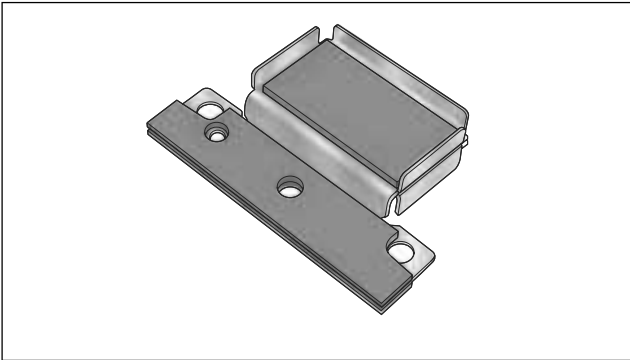

Figure 2-68. Brake Caliper Piston Remover (Part No. HD-43293A)
- a. Obtain BRAKE CALIPER PISTON REMOVER (Part No. HD-43293A). See inset of Figure 2-68.